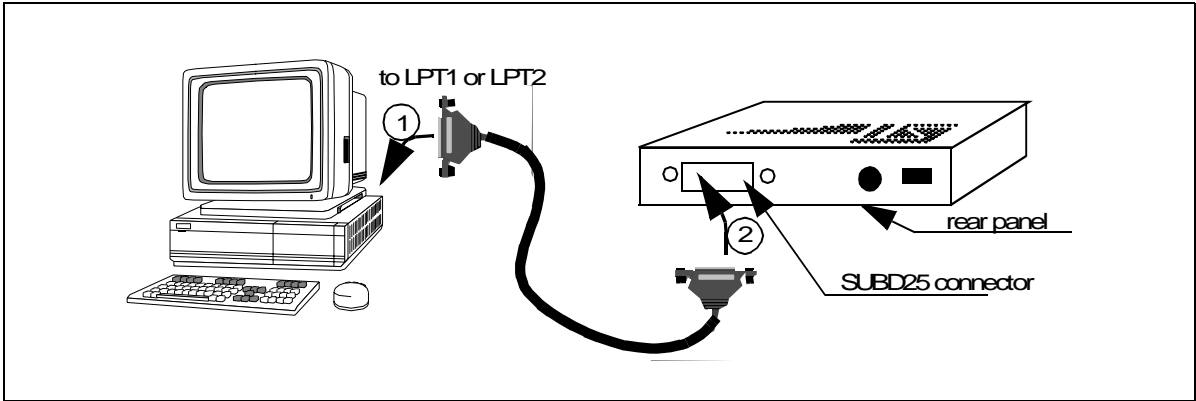

Figure 4: Connecting the Emulator to the PC
- 2 Connect one end of the parallel cable to the emulator's rear panel 25-pin SUB-D connector and the other end to one of the PC's parallel ports (LPT1 to LPT2)—refer to Figure 4.